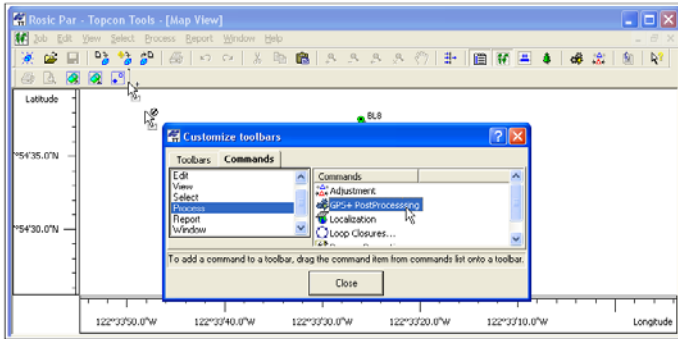

Figure 1-22. Adding Commands to Toolbar
- To add a command, select the applicable menu, then click and drag the desired toolbar command to the empty toolbar (or to a location on any toolbar) on the main screen and release the mouse button (Figure 1-22 on page 1-23).